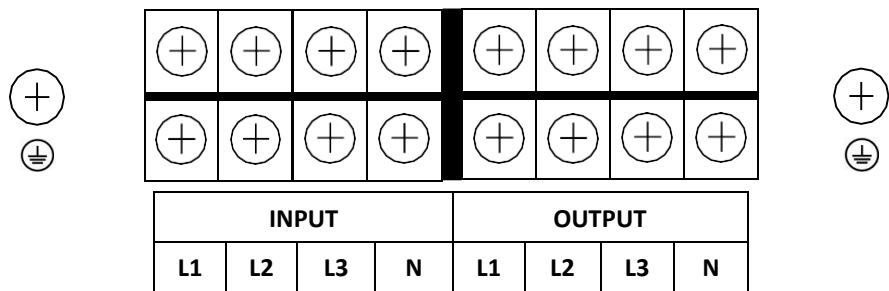

Figure 9 - INPUT/OUTPUT terminals for Three Phase Stabilizer
- 2.1. Remove the metallic panel that covers the **Input/Output terminals**. The terminals are shown in figure 9. All the cables have to reach the terminals from the rear side using the proper holes on the stabilizer.
- 2.2. Connect the **AC INPUT line (PHASE 1, PHASE 2, PHASE 3, NEUTRAL and GROUND)**, paying attention to the right polarity, in accordance with figure 9, as explained below:
- 2.3. Connect the **AC OUTPUT line (PHASE 1, PHASE 2, PHASE 3, NEUTRAL and GROUND)**, paying attention to the right polarity, in accordance with figure 9, as explained below: